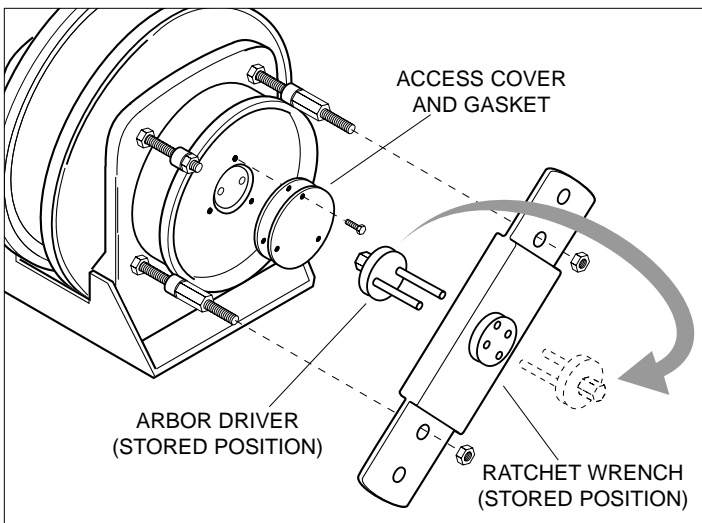

Figure 2
1. Remove ratchet wrench from storage position on face of spring canister (Fig 2).
2. Remove access cover and gasket from spring canister (Fig 2).
6. When spring is properly tensioned, remove ratchet wrench and replace hex nuts on spring mounting studs. Replace access cover and gasket. Store ratchet wrench on extension bolts, placing arbor driver between spring canister and wrench (Fig 2).